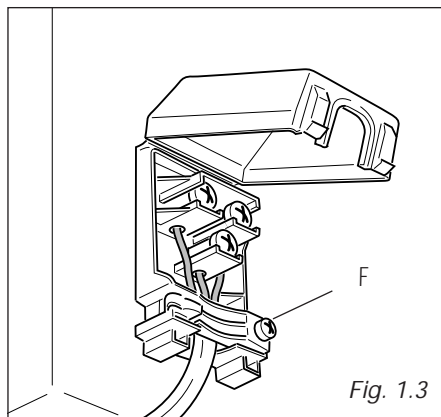

Fig. 1.3
- Open the cable gland by unscrewing screw "F" (fig. 1.3), unscrew the terminal screws and remove the cable.